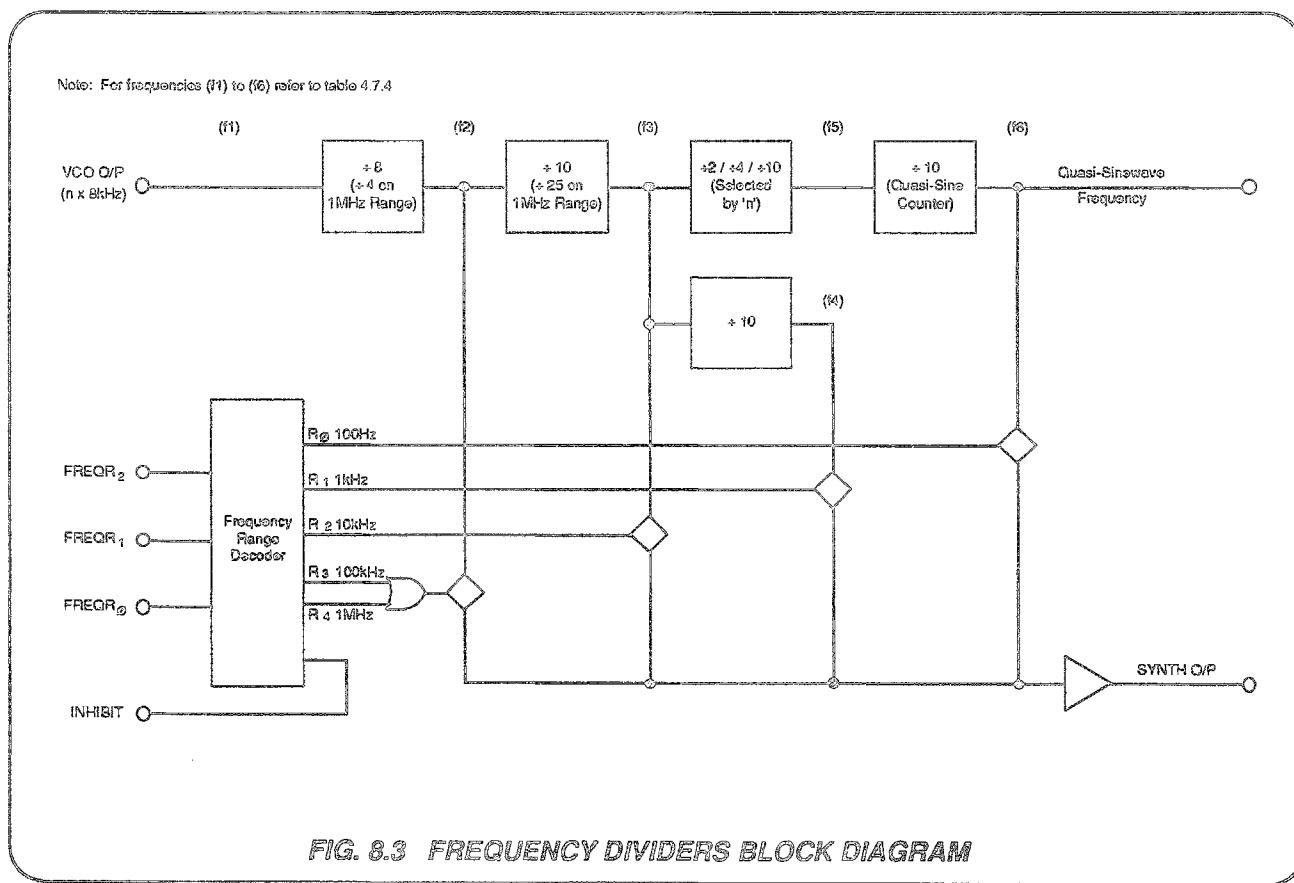

FIG. 8.3 FREQUENCY DIVIDERS BLOCK DIAGRAM
(Fig 8.3)
8.1.3.2 Ratio Selection by Frequency Range (Fig. 8.3 and Table 8.2)
8.1.3.3 Frequency Synthesis for the Quasi-Sinewave Generator (Fig. 8.3 and Table 8.3)